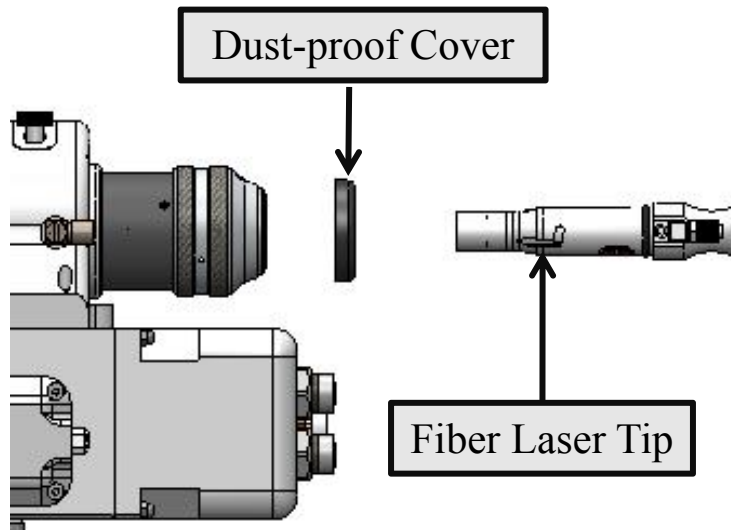

Figure 2.5
- ① Put the cutting head horizontally, remove the white cover and static sticker, and then take out the dust-proof cover, as shown in Figure 2.5.